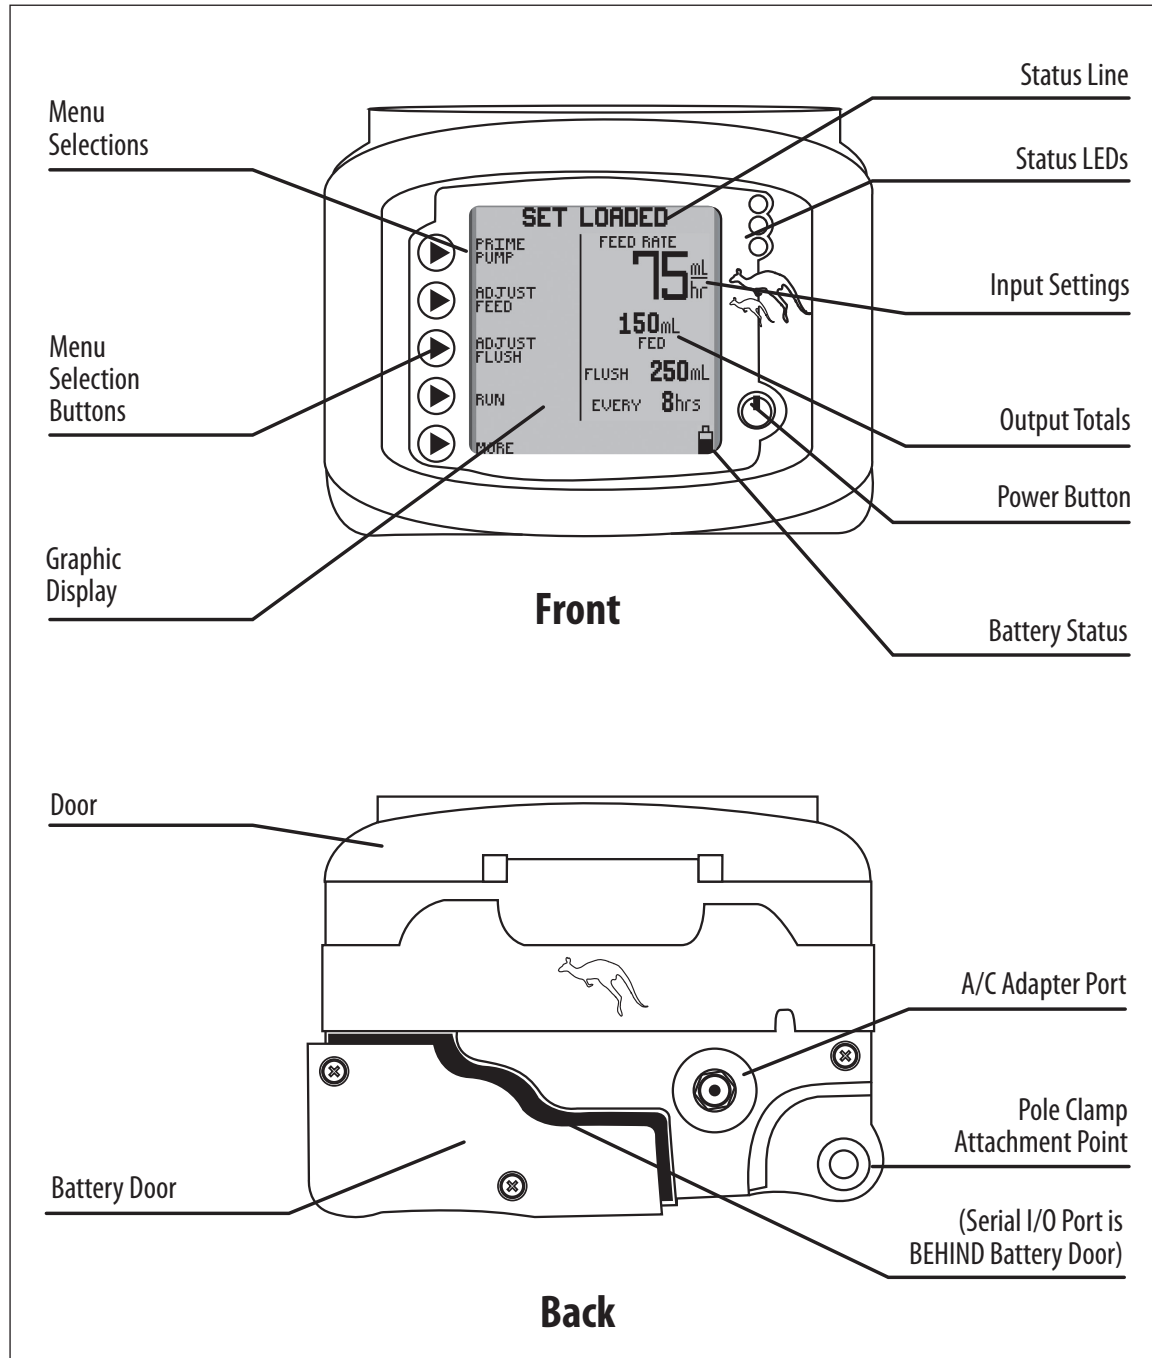

Figure 1A. KANGAROO JOEY features, front and rear views.
13. **WARNING:** The serial I/O port (see Figure 1A) is intended only for use by the manufacturer.
Plug the Power Cord into the A/C Adapter Port on the back of the pump. See Figure 1A to locate port on pump.